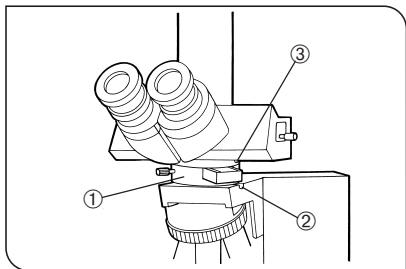

Fig. 4
4. Keeping the simple polarizing intermediate attachment (U-KPA) ① stationary, loosen the observation tube clamping screw ②. Rotate the U-KPA slightly until complete extinction is obtained. At this point, tighten the clamping screw. (Fig.4)
★ If this adjustment moves the binocular eyepieces away from the front, loosen the U-KPA's observation tube clamping screw ③ and re-adjust the position of the observation tube. (Fig.4)